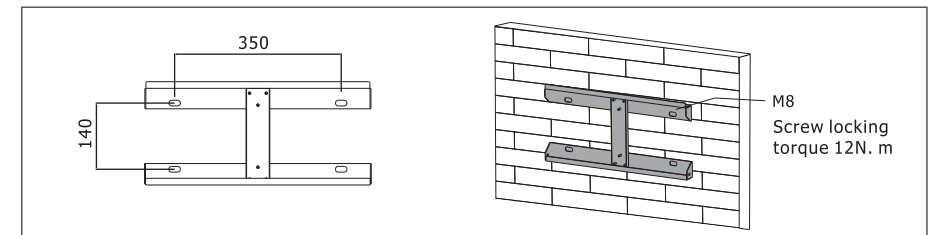

Figure 3.4-1 Install Inverter hanging plate
Step 1. Please use the mounting bracket as a template to drill 4 holes in the right positions (10mm in diameter, and 80mm in depth). Use M8 expansion bolts in accessory box and fix the mounting bracket with a 12mm drill bracket onto the wall tightly. The installation of inverter support is shown in Figure 3.4-1.